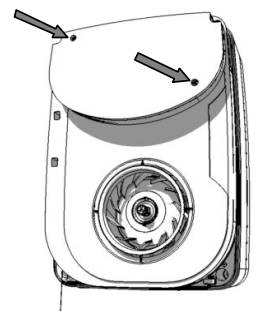

Figure 14.
12. Re fit Electrical Cover with 2 screws indicated - Figure 14.